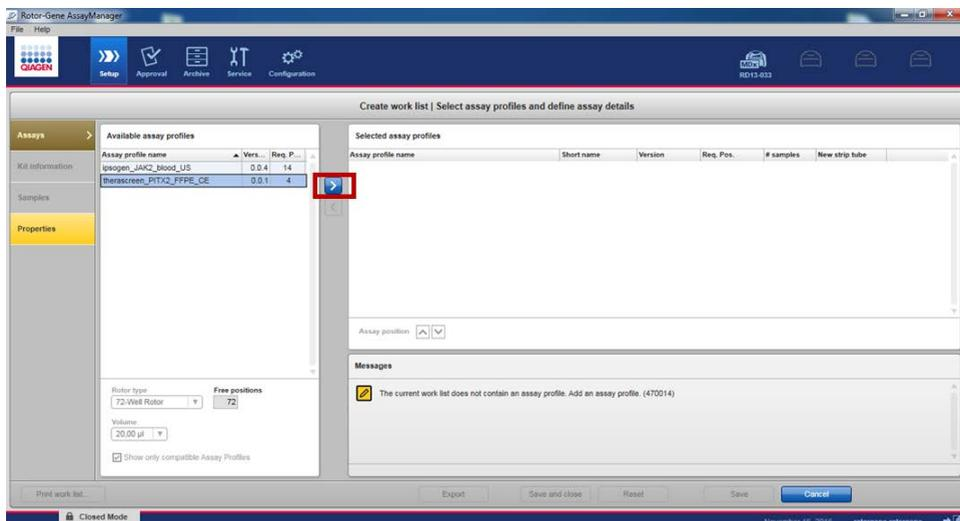

Figure 8. Assay profile import.
18. Select the PITX2 assay profile from the list of available assay profiles (Figure 8).
19. Transfer the selected assay profile to the list of selected assay profiles by clicking on the arrow (to the right of the assay profile name). The assay profile should now be displayed in the selected assay profiles list (Figure 8).